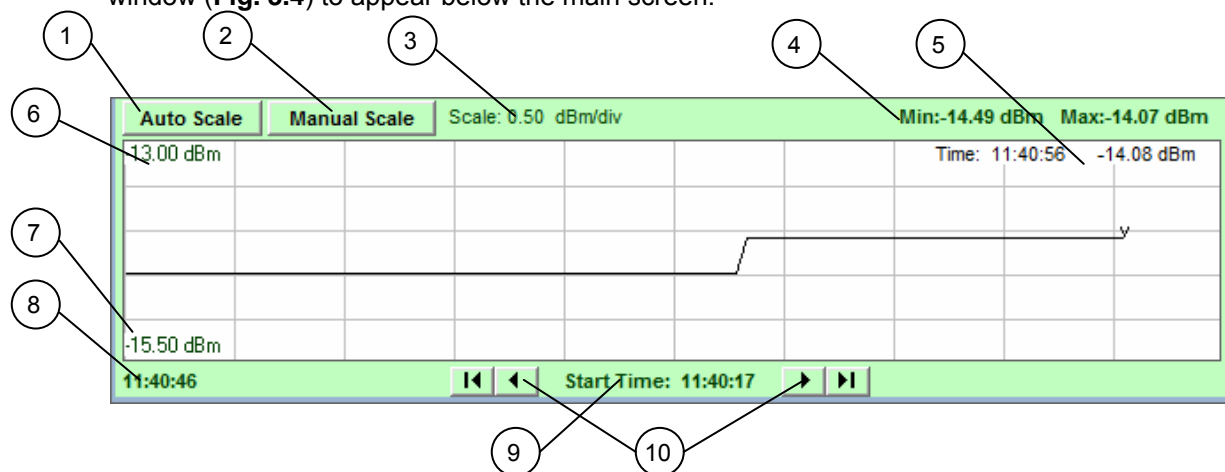

Figure 3.4: Real-Time graph
Checking the 'Display Graph' box in the lower left corner of the main screen will cause a graph window (Fig. 3.4) to appear below the main screen.
3.4.1 Real-Time graph indicators and functions (Fig. 3.4)